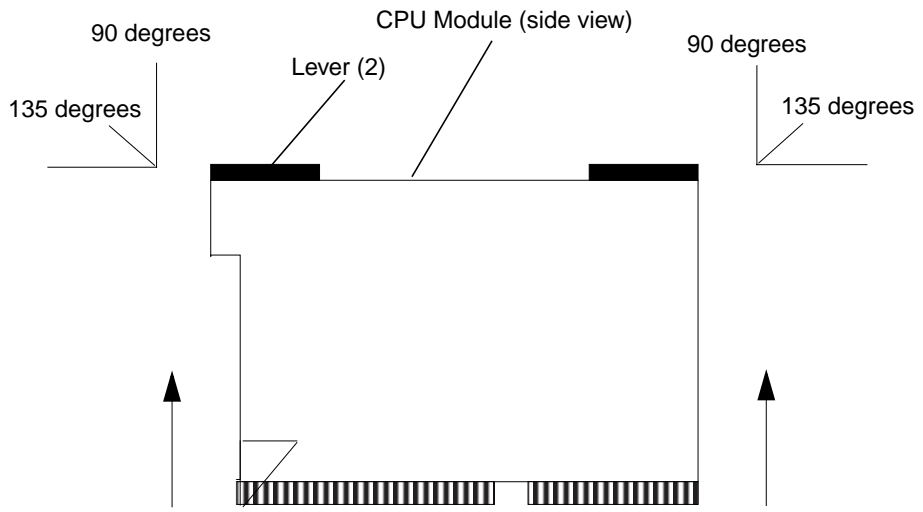

FIGURE 10-2 Removing a CPU Module
5. With the thumb of each hand, simultaneously lift the CPU module levers upward and to the side at an approximate 135-degree angle (FIGURE 10-2).
5. **Open the CPU module levers to an approximate 135-degree angle** (FIGURE 10-2).